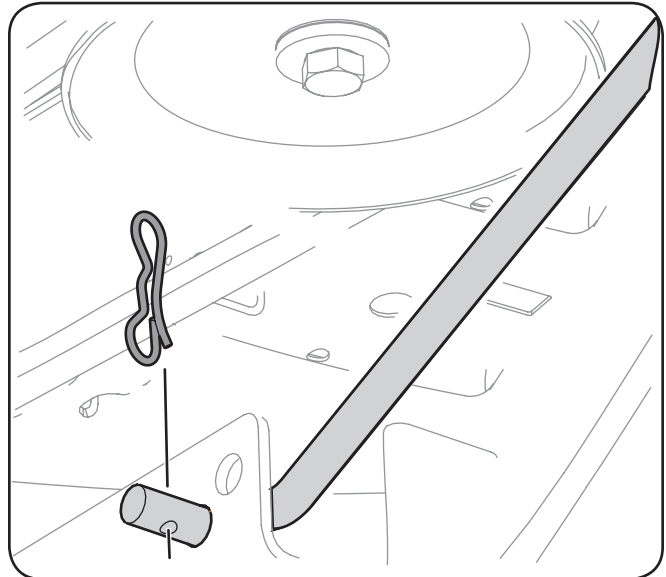

Figure 7-4
- Pull the pin out of the front deck lift rod securing it to the deck. See Figure 7-4. Slide the deck lift rod out of the front hanger bracket.